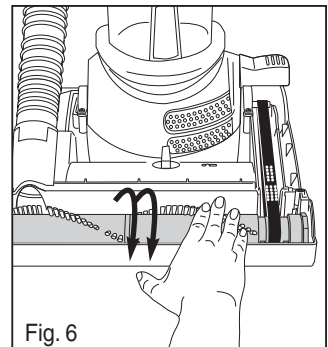

Fig. 6
- 6) Rotate brush roll 2 turns to center belt (Fig. 6).